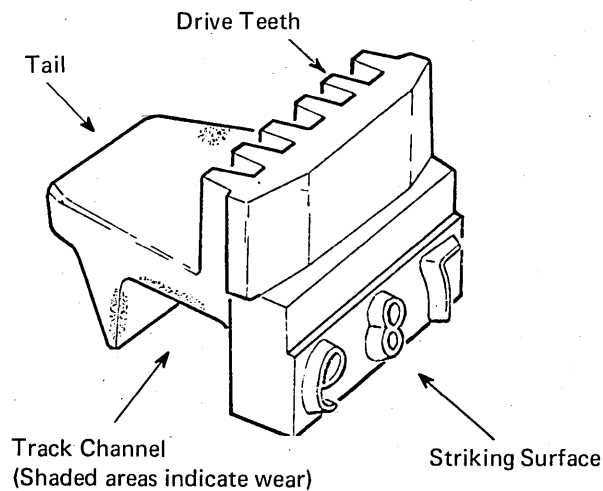

Figure 4-46. Type Slug
- a. Check the slugs for wear of the drive teeth, upper side of tail, upper and rear area of track channel and the striking surface of the characters (Figure 4-46).